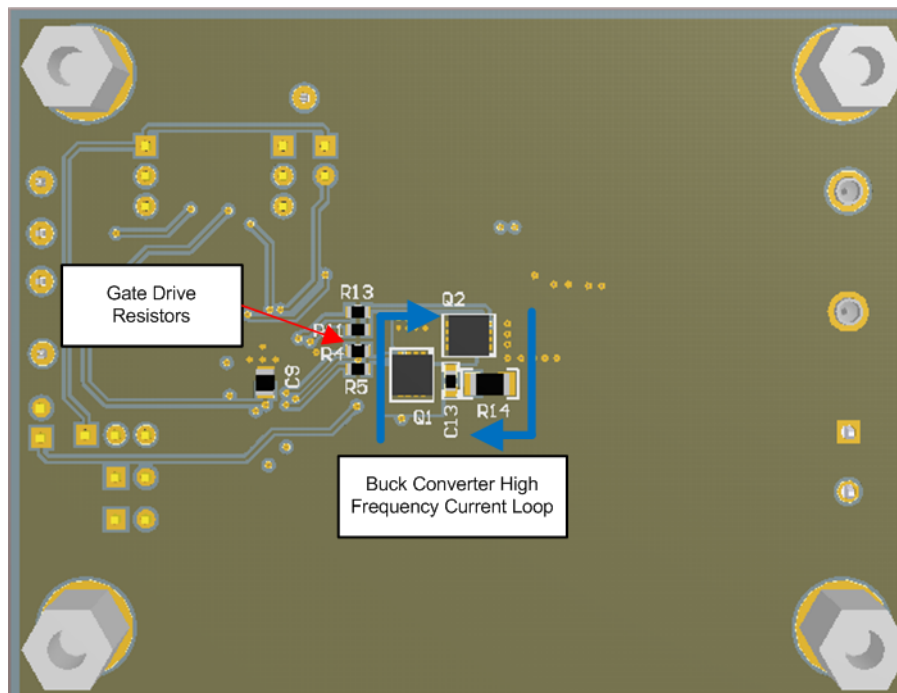
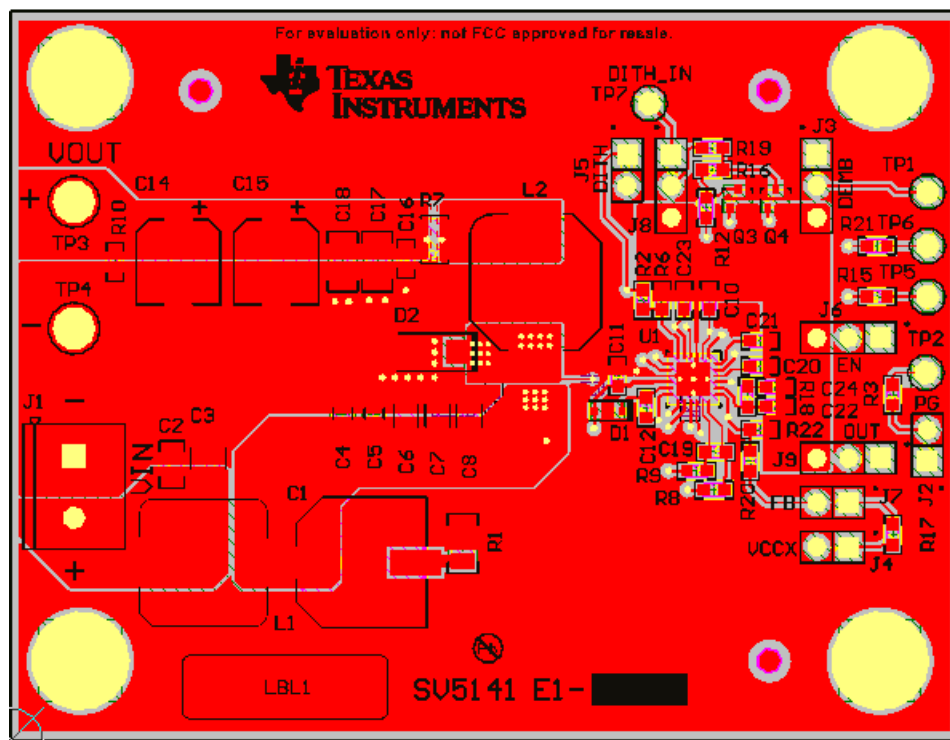
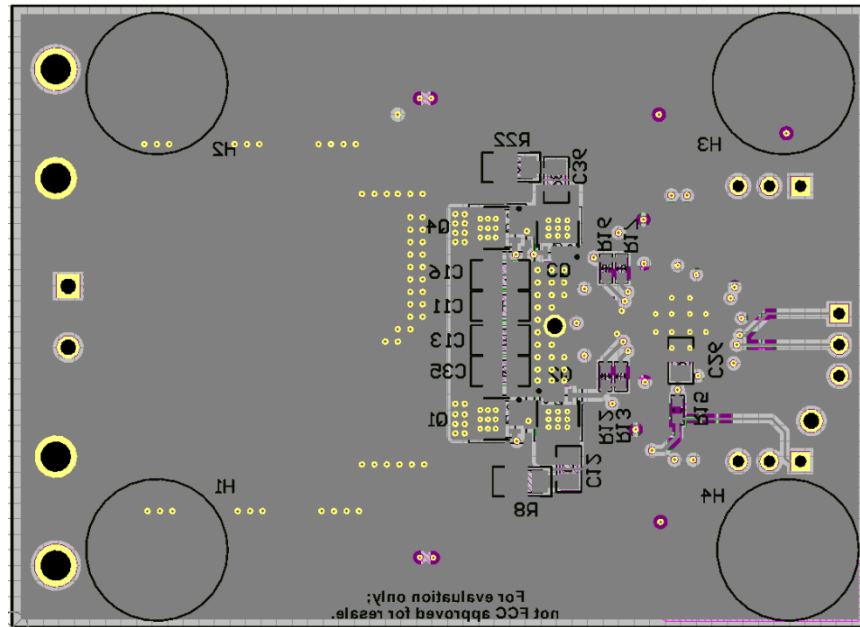

Figure 39. EVM Bottom Layer, High-Frequency Current Loop
Figure 41. EVM Top Layer
Figure 42. EVM Bottom Layer
- Figure 39 shows the high-frequency loops of the synchronous buck converter. The high frequency current flows through Q1 and Q2, through the power ground plane and back to V_{IN} through the ceramic capacitors C6, C7, and C8. This loop must be as small as possible to minimize EMI. Refer to Figure 41 and Figure 42 for the recommended PCB layout.
Figure 41 and Figure 42 show the Top and Bottom layer of the LM25141-Q1 EVM.